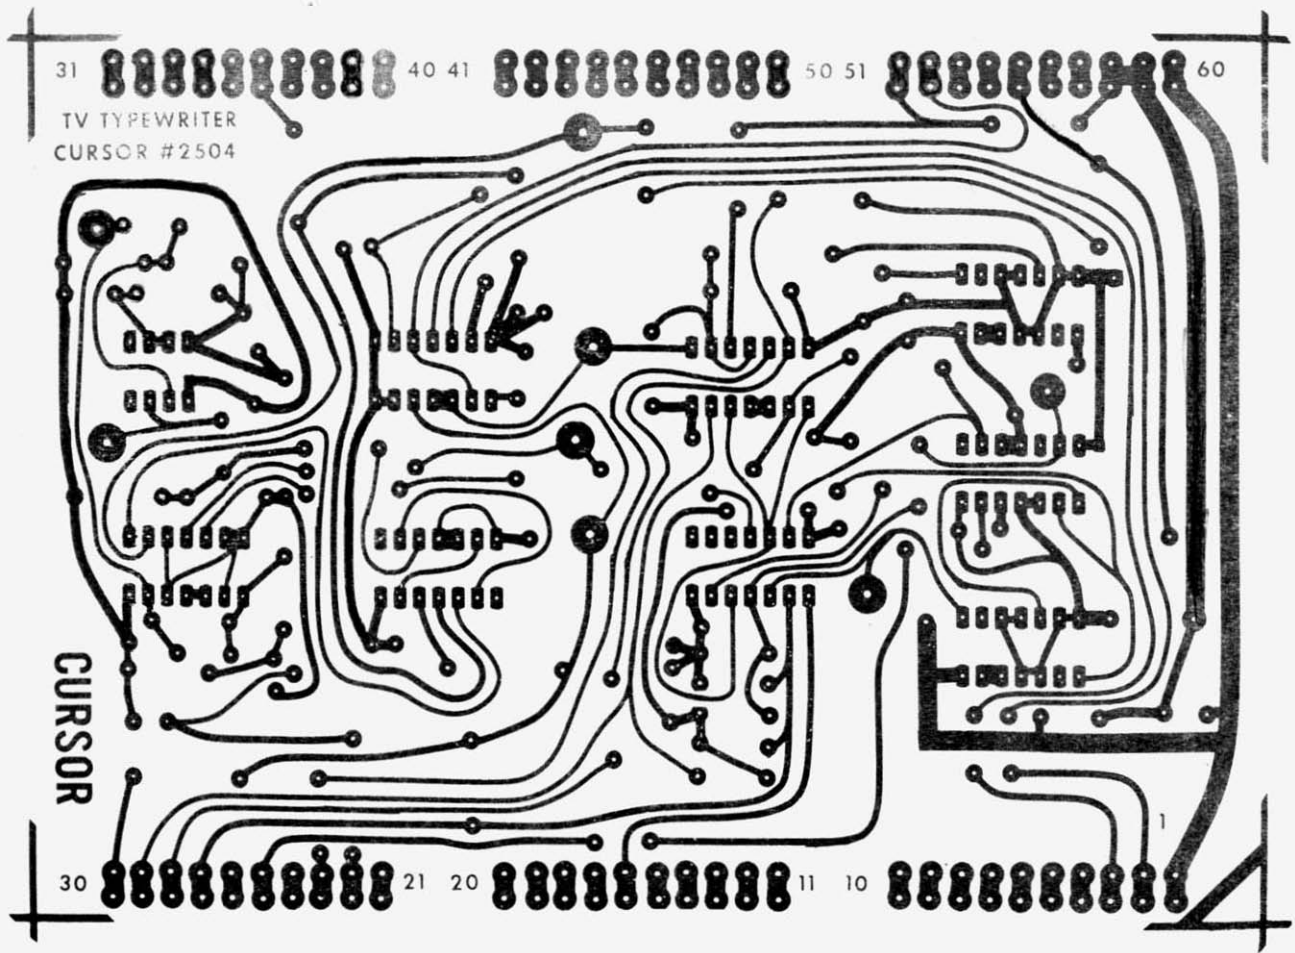

FIG. 16 -- FULL SIZE FOIL PATTERN for cursor board.
10. An inverter formed from pins 11 and 12 of IC8, cursor board must be placed between IC6 pin 1 and "A" on the cursor board. This is shown correctly on the foil pattern (figure 16) but should be added to the schematic of figure 8.